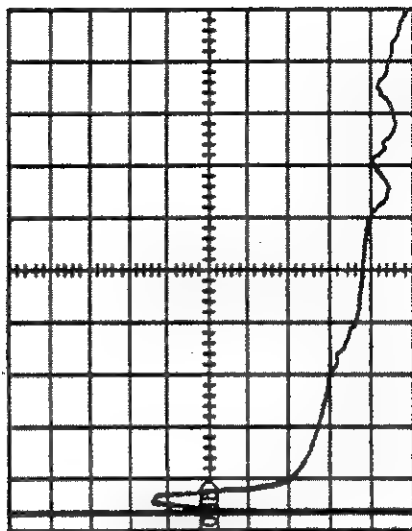

Fig. 3-4. Short Pulse Display.
11. Push PULSE SHORT. The CRT display should resemble that in Figure 3-4.